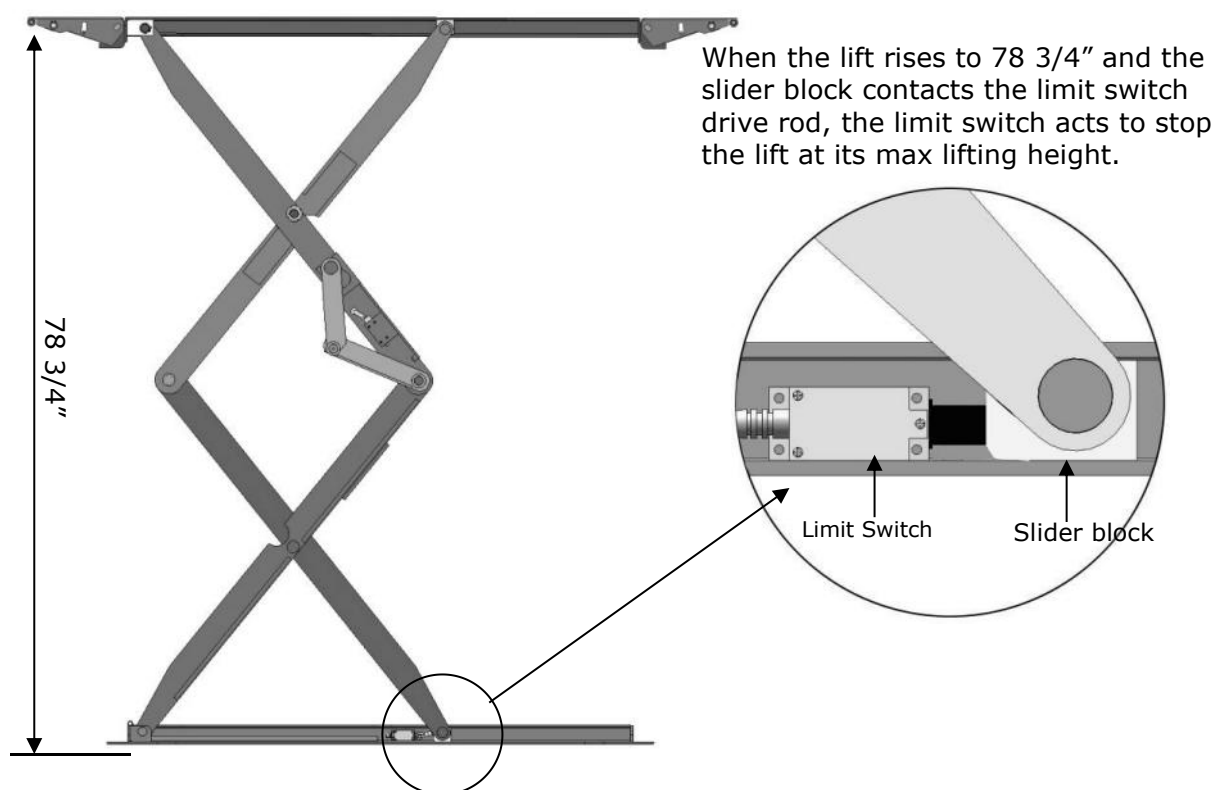

Fig. 17
2.1 High limit switch instruction (See Fig. 17)